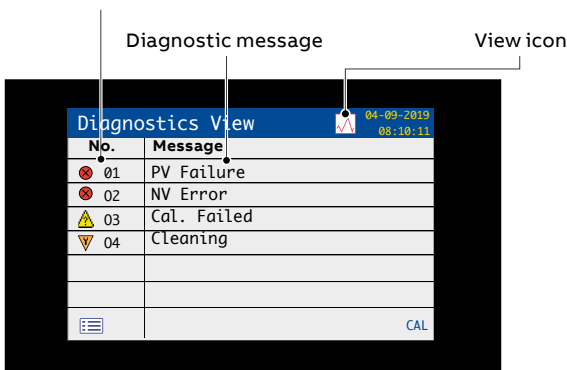

Figure 7 Diagnostics View
- **Diagnostics View** – displays a list of active diagnostic messages identified by priority and message – see Figure 7